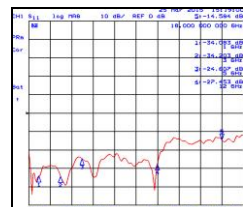

Figure 3
- Current return loss values inside the gate are transformed back from the time domain to the frequency domain (figure 3), representing the return loss from a defined position within the DUT.